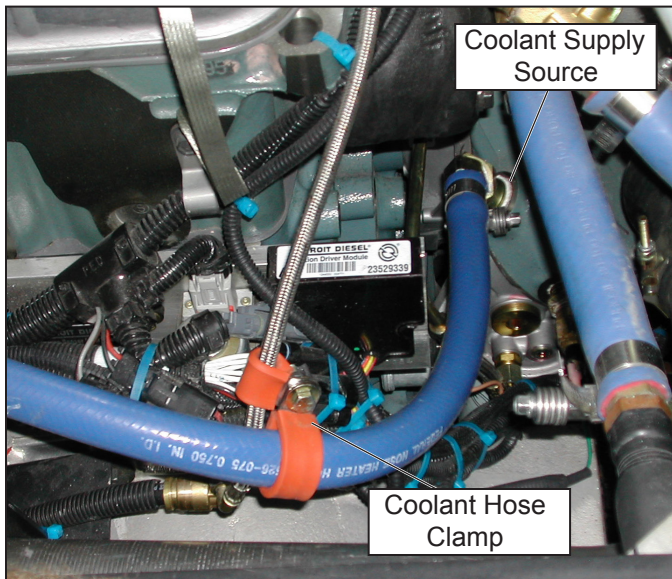

Figure 5 – Coolant Routing at the Engine Cooler Housing
20. See Figure 5. For a typical installation, the silicone hose connects to a 3/4" hose bead to 3/4" NPT 45° adapter which in turn connects to a 3/4" to 3/4" NPT 45° adapter. The adapter is installed in one of three available ports on the cooler housing. Depending on the vehicle, the current use of oil cooler housing ports for the cab heater or temperature sending unit may need to be re-assigned in order to accommodate the air compressor coolant fittings. In most installations, both 45° fittings are required to provide sufficient clearance around the engine.